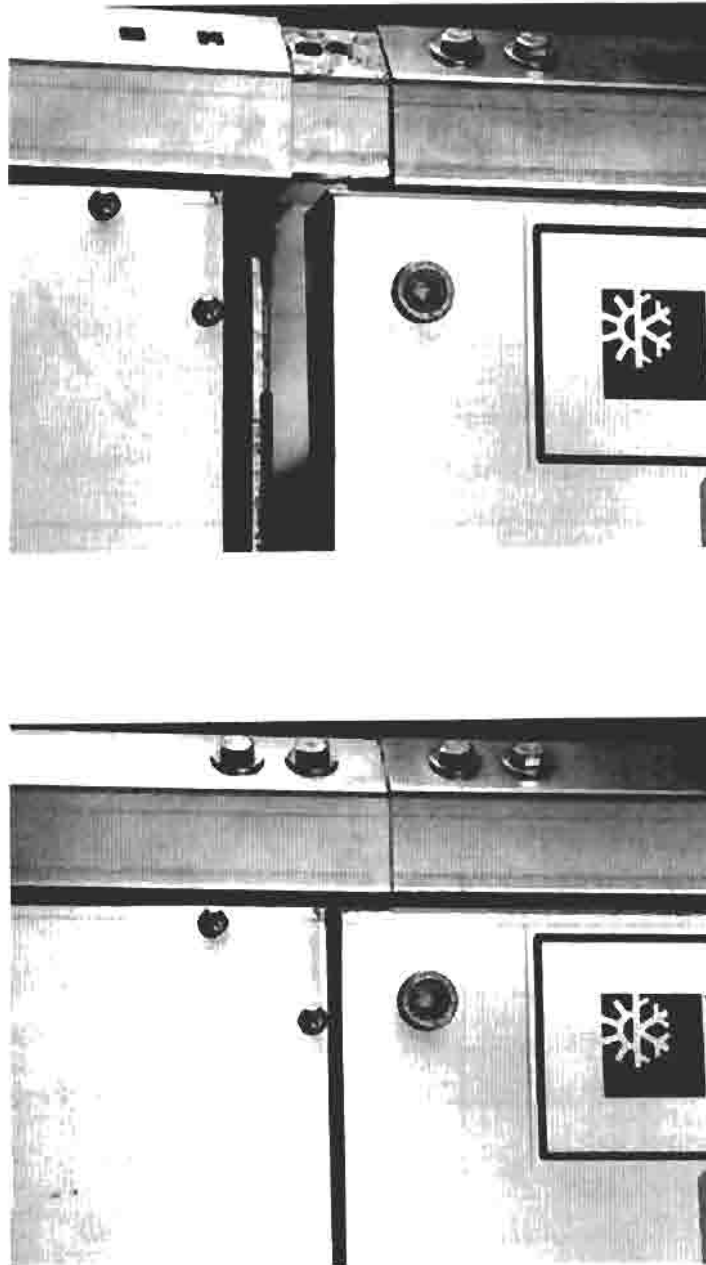

FIG. 9 – PANEL SEGMENT ASSEMBLY
10. Repeat steps 2 thru 9 for 3rd, 4th , etc. segments (see Figure 9 for complete assembly view).